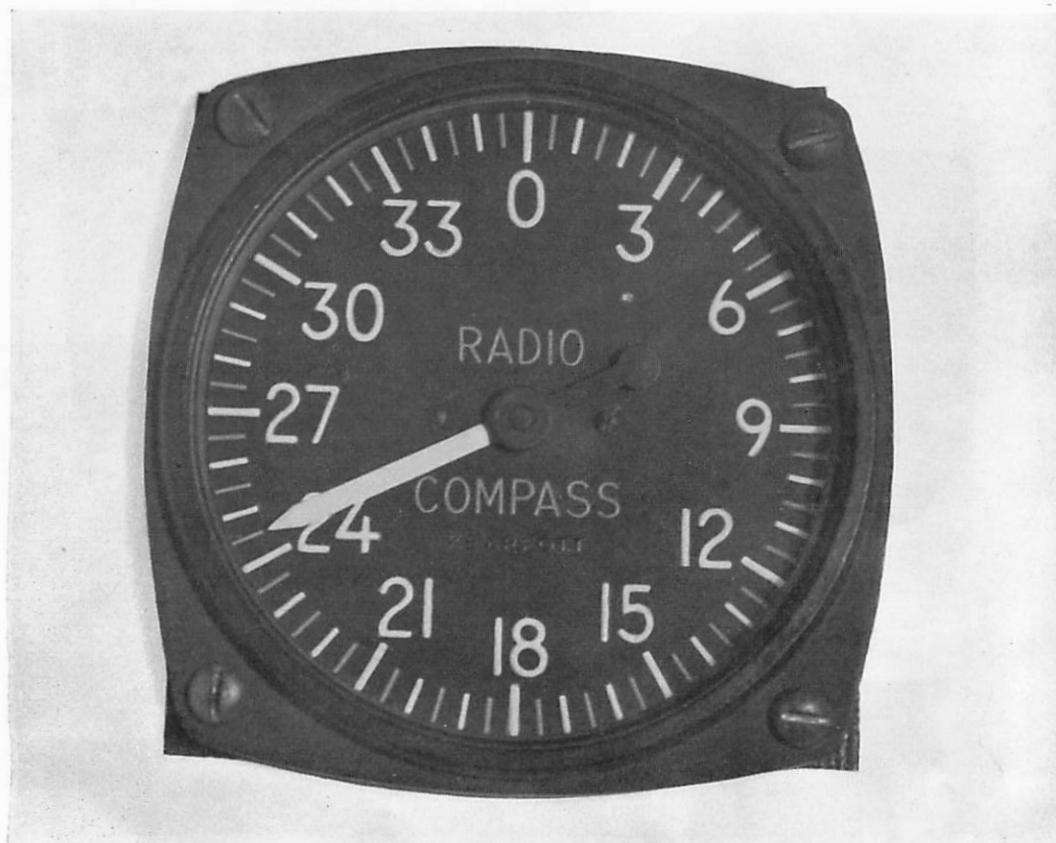
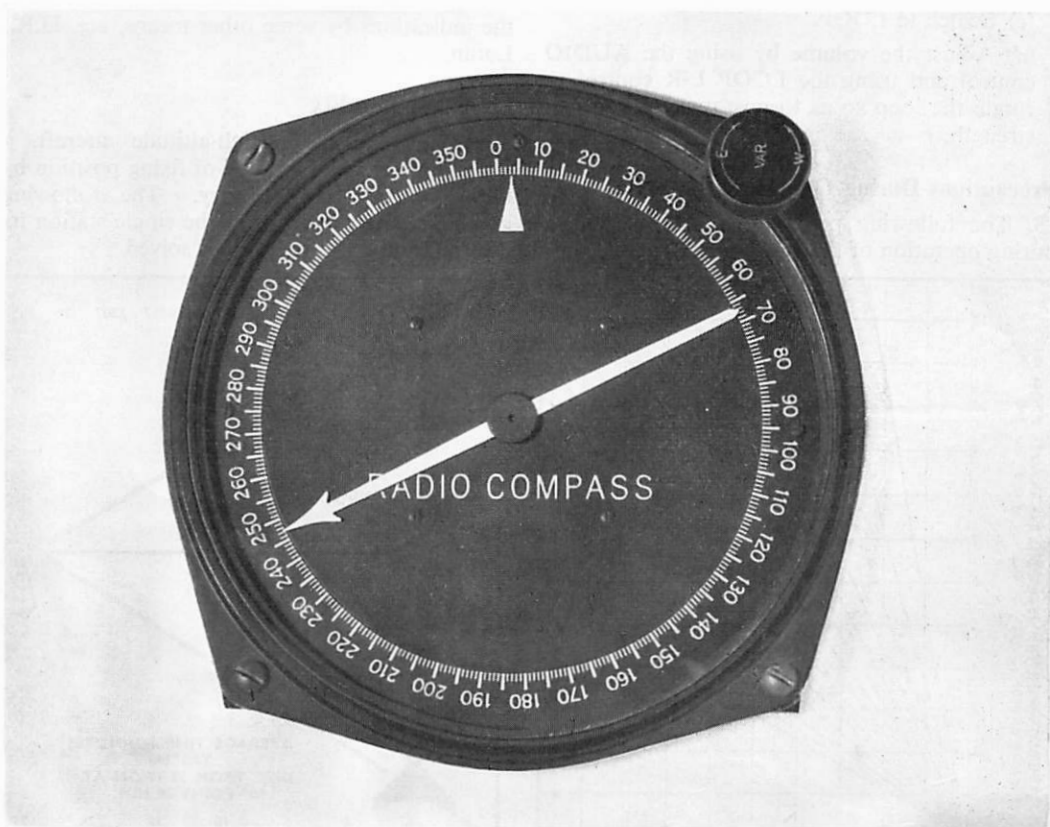

Fig. 6. Radio Compass (S.C.R. 269G) Pilot's Indicator.
Fig. 7. Radio Compass (S.C.R. 269G) Navigator's Indicator.
**22. Bearing Indicators.** The pilot's bearing indicator (Fig. 6) is a direct-reading instrument, but variation may be set on the navigator's bearing indicator (Fig. 7) in order to read true bearings.